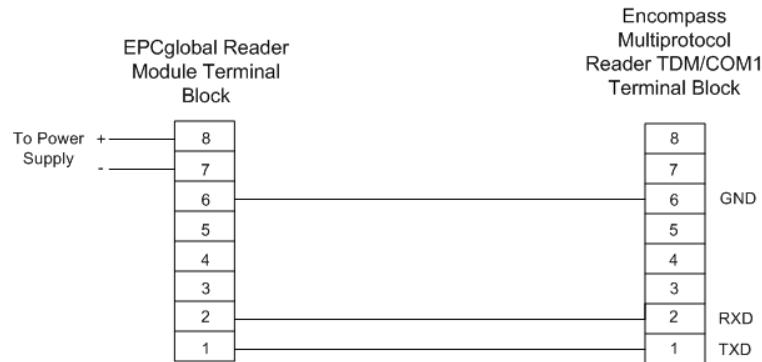

Figure 2. EPC Module-to-Encompass Reader Wiring Diagram
3. Connect the EPCglobal Reader Module terminal to the Encompass multiprotocol reader TDM/COM1 port as shown in Figure 2.